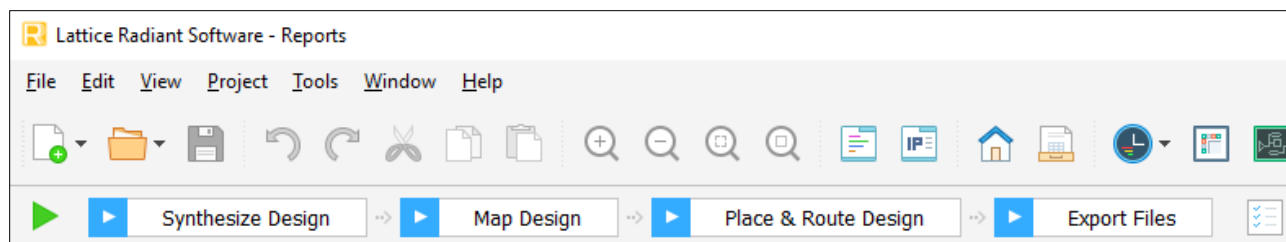

Figure 10.2. Radiant Software – Process Toolbar Initial State
5. In the **Process Toolbar**, click the **Run All**  icon, as shown in Figure 10.2.